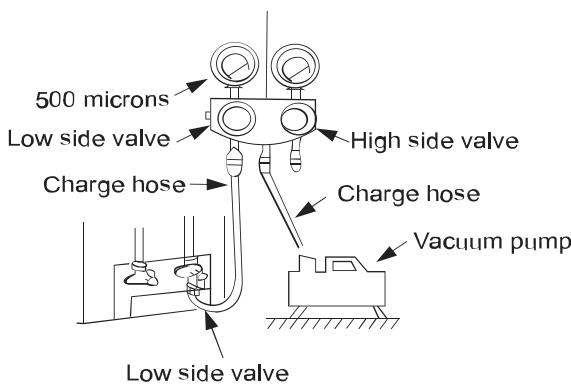

Fig. 6 —Manifold
1. Completely tighten flare nuts. Connect the manifold gage charge hose to a charge port of the low side service valve (see Fig. 6).